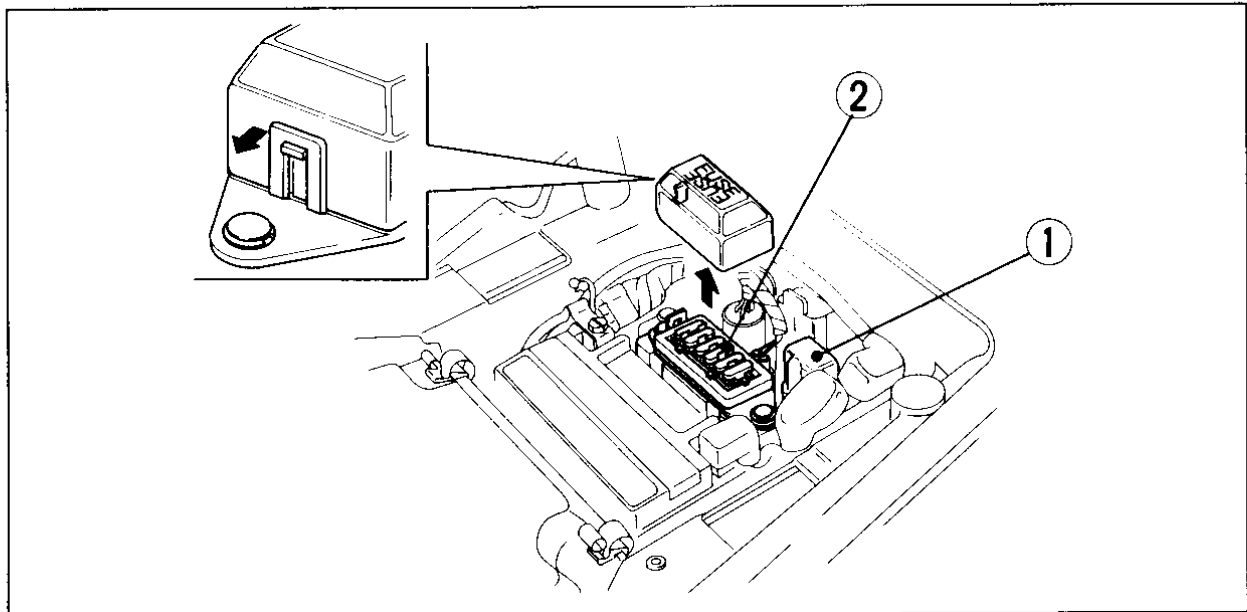

Fig. 4-20
As illustrated in Fig. 4-20, the main fuse (1) and the sub fuses (2) are located in the battery compartment. The main fuse is 30A. The sub fuses are 15 A and 10A.